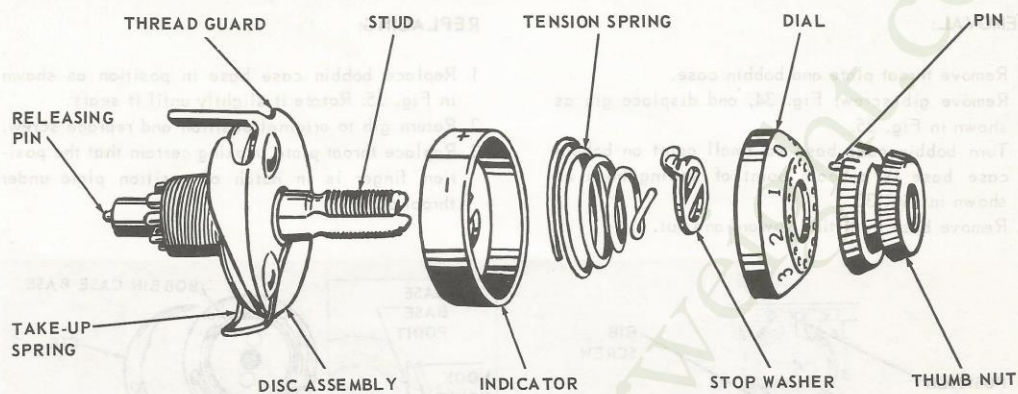

Fig. 31 Needle Thread Tension Assembly
3. Press in on dial, Fig. 31, disengage pin in thumbnut from hole in dial.
1. Make certain that releasing pin is in place as shown in Fig. 31.
5. Replace indicator, open side out, on stud with plus and minus indications at top as shown in Fig. 31.
6. Insert tension spring into indicator and replace stop washer as shown in Fig. 31.